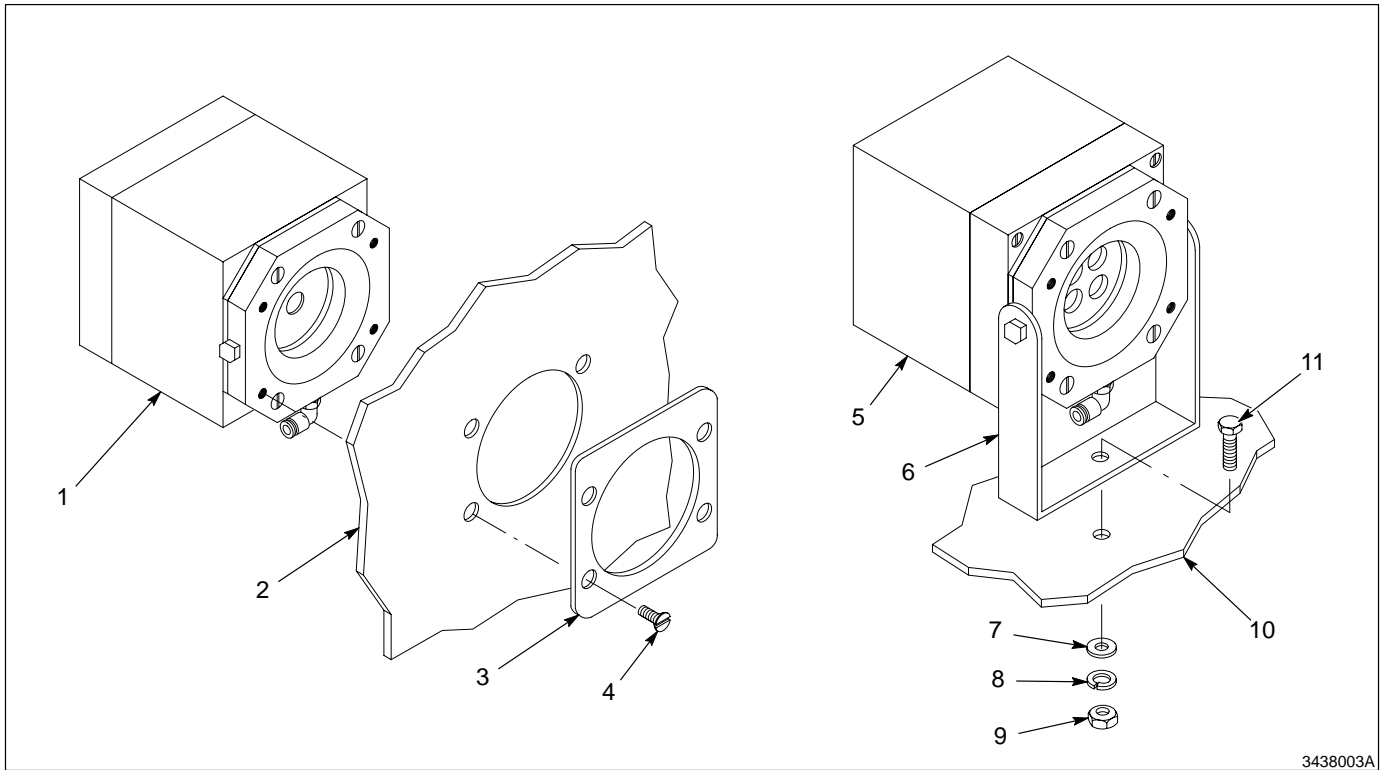

Fig. 3 Mounting Sensors and Test Lights
2. See Figure 3. Use the test-light mounting plates as templates to mark drill points on the booth vestibule walls. Drill a 77-mm (3-in.) hole for the lens and 6-mm ($\frac{1}{4}$ -in.) holes for the mounting screws.